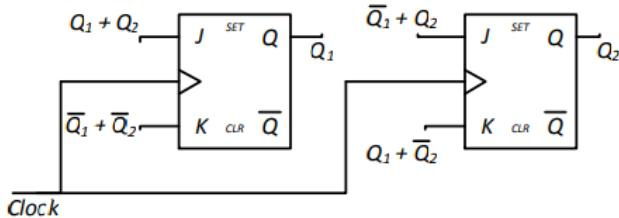

Fig. 5.32
33. A 2-bit synchronous counter using two J-K flip flops is shown in Fig. 5.32. The expressions for the inputs to the J-K flip flops are also shown in the figure. The output sequence of the counter starting from $Q_1Q_2 = 00$ is